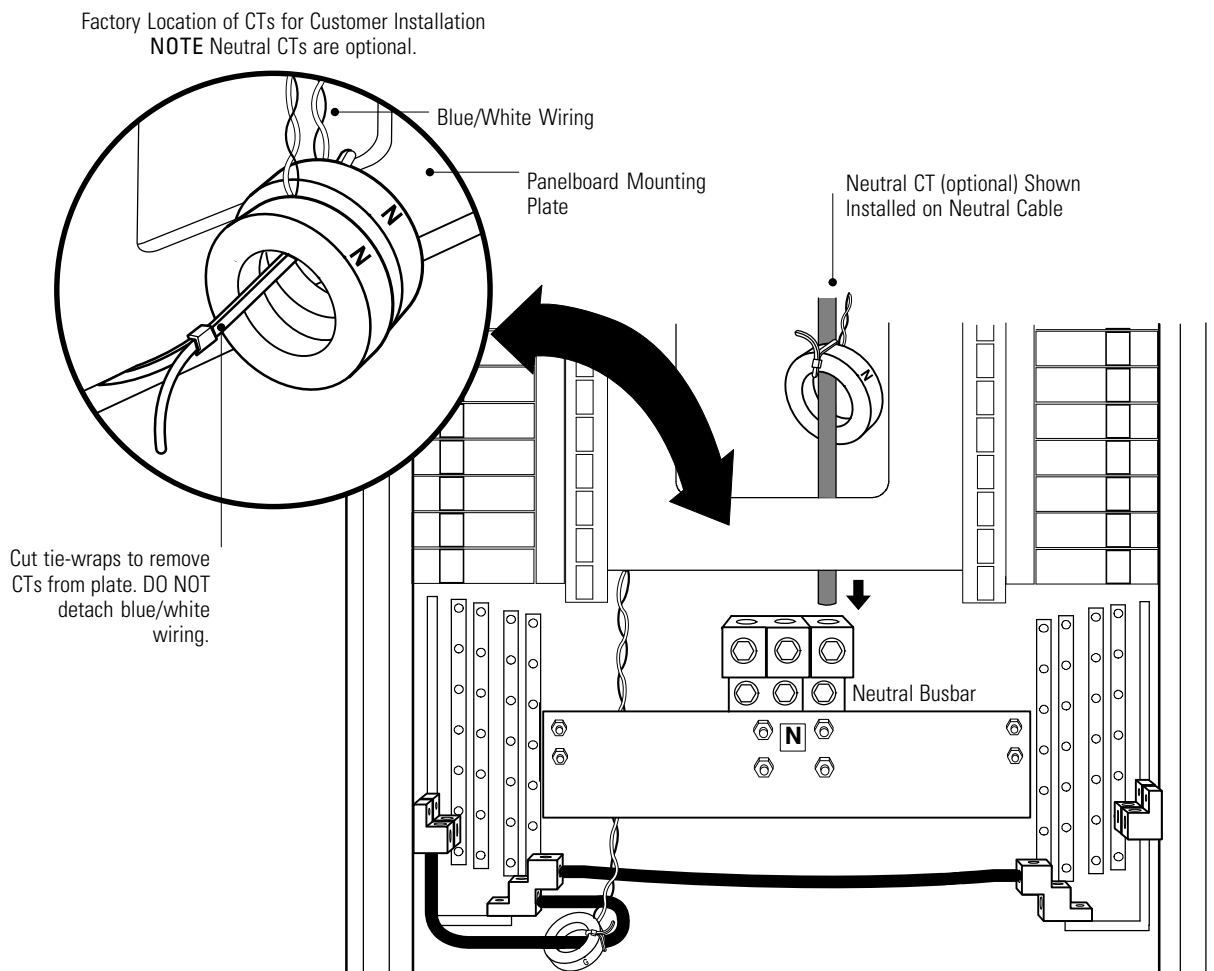

Figure 13. Installing the Neutral (Dual 800A Main Input Lug, Dual 400A Main Input Breaker, and Dual 600A Main Input Breaker)
9. Dual 800A Main Input Lug, Dual 400A Main Input Breaker, and Dual 600A Main Input Breaker configurations. Connect the neutral cables to the neutral busbars (see Figure 13, and Table 2 and Table 3 on page 19):
NOTE Figure 13 shows top entry wiring, optional neutral CTs for measured neutral current, and front access installation.